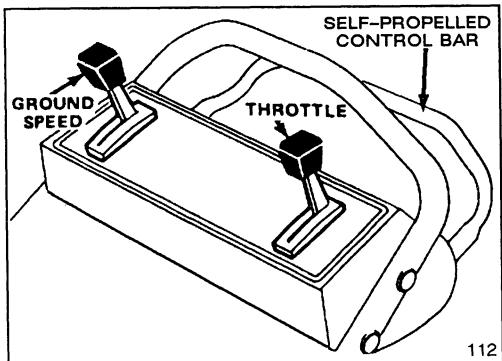

Figure 6
1. **CONTROLS**—Throttle, ground speed control, and blade/self-propelled control bar are on upper handle (Fig. 6). Recoil starter is on top of engine.
2. Push spark plug wire onto spark plug and move ground speed control to "N" (Fig. 6).
**4. GROUND SPEED** (Fig. 6)—Move ground speed control to desired setting. Number "1" is slow, "2" is medium, and "3" is a fast walking pace. Move ground speed control to "N" when using the mower for trimming and whenever leaving mower.
**6. STOPPING** (Fig. 6)—Release control bar to stop blade and traction drive. Move ground speed control to "N". To stop engine, move throttle to OFF. Pull wire off spark plug if mower is unattended or not used.
3. Move throttle control to FAST (Fig. 6).